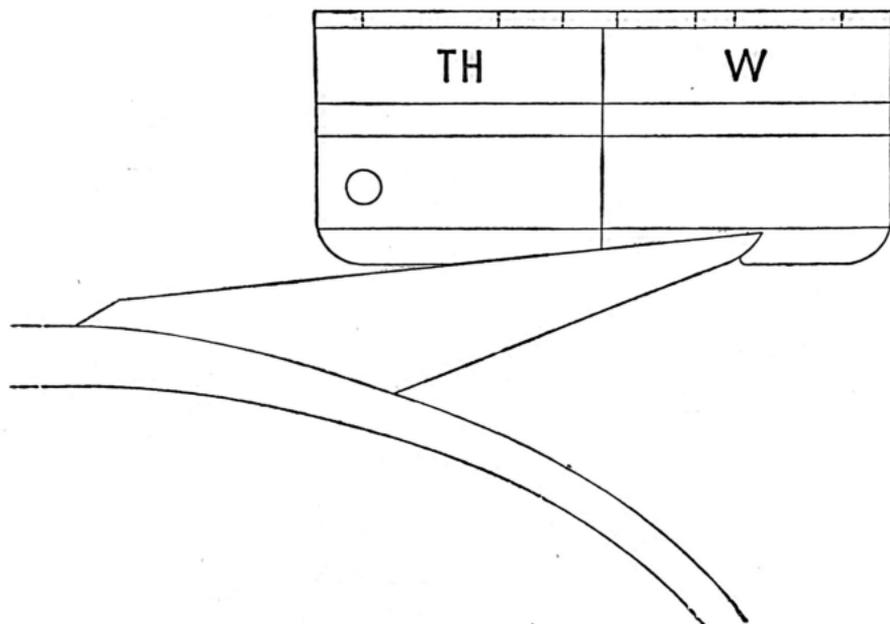

FIG. 18
4.09 To check the gaff profile at the tip insert the gaff in the cutout provided, as shown in Fig. 18. The curvature of the gaff tip should fit the curvature of the profile cutout in the gauge.
4.10 To check the straightness of the gaff at the outer edge, insert the gaff in the cutout provided to check the gaff profile (Fig. 18). If there is a perceptible bow within 1/2 inch of the gaff tip the climbers should be exchanged at once for a pair in good condition.